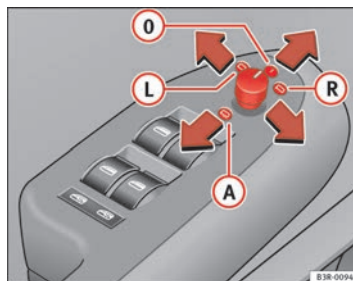

Fig. 105 Detailed view of the armrest: Adjuster knob
- Turn the adjuster knob to position $\Rightarrow$ page 132, fig. 105 **L** (left exterior mirror) or position **R** (right exterior mirror).
When reverse gear is engaged, the mirror surface tilts slightly downwards, provided the mirror control is switched to the exterior mirror on the passenger's side (knob in position **R** $\Rightarrow$ page 132, fig. 105). This provides a better view of the kerb when parking.